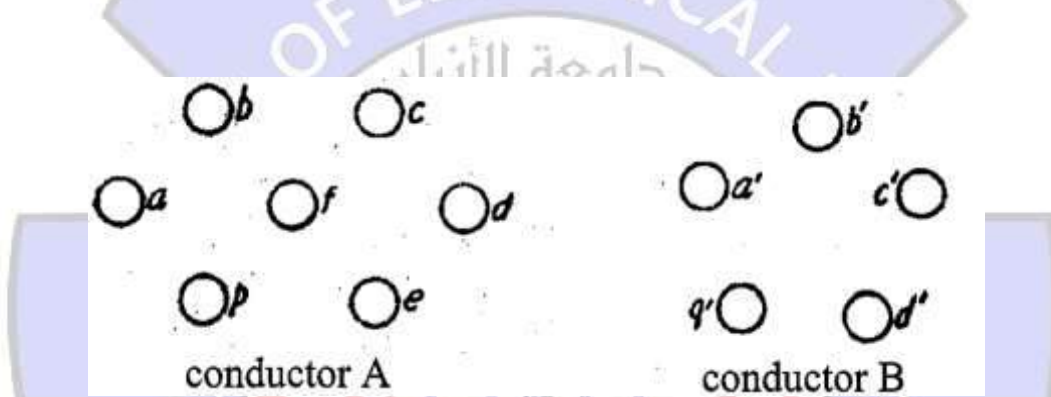

Fig. 16:
- Figure 16 shows a single-phase line composed of two composite conductors A and B.